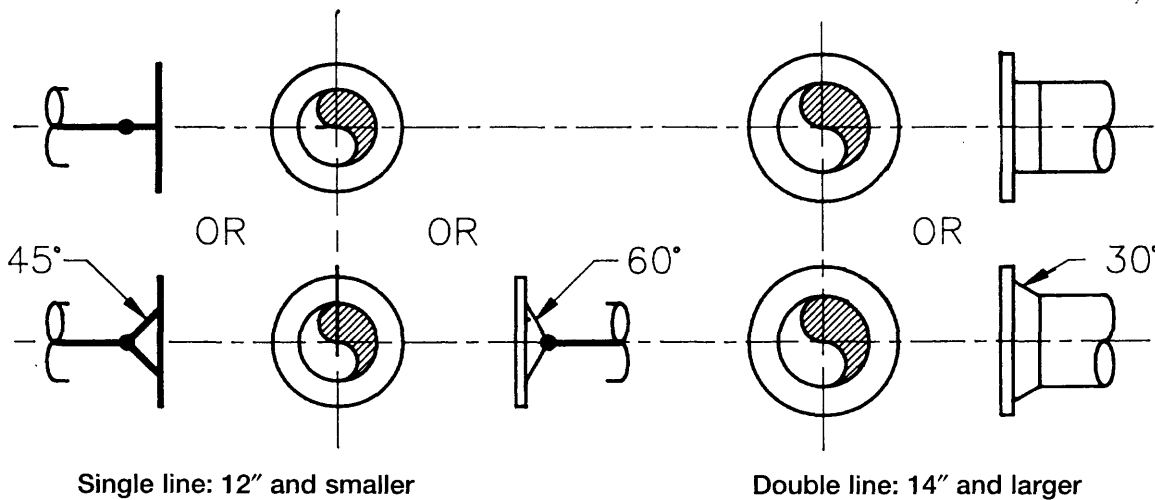

Figure 4-9. Weld neck flange drawing symbols.
Known for its strength and resistance to dishing, the weld neck flange is manufactured with a long tapered hub. The tapered hub is created by the gradual increase in metal thickness from the weld joint to the flange facing. The symmetrical taper transition is extremely beneficial under conditions of repeated bending caused by line expansion, contraction, or other external forces. See Figure 4-9, for weld neck flange drawing symbols.
Step 5. When constructing single-line symbols, the flange will be represented as a T shape. The flange face is typically drawn as a single line the thickness of a double wide .7mm lead. A weld dot will be placed on the end of the flange at the point where the pipe is attached (see Figure 4-9).